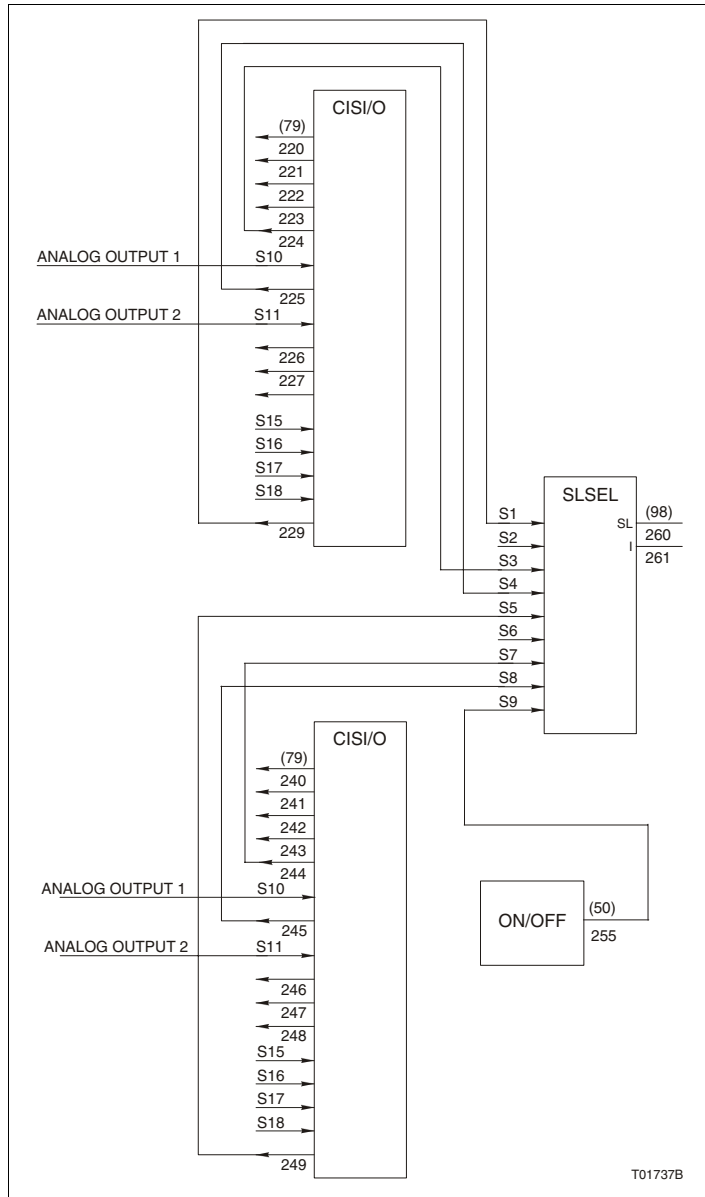

Figure 98-1. Transfer Active I/O Module if an Analog Output Goes Bad
- S3 – QIOA1 Block address of the I/O quality for module one. Specifications S3 and S4 define the blocks containing the boolean or real I/O for module one. If the quality of <S3> or <S4> goes bad, control will be transferred to module two, providing it is good quality. If both modules are bad quality, the output is the value from module one, but output N+1 equals logic 1 (both modules are bad). Figure 98-1 shows how to transfer an active I/O module if an analog output goes bad.